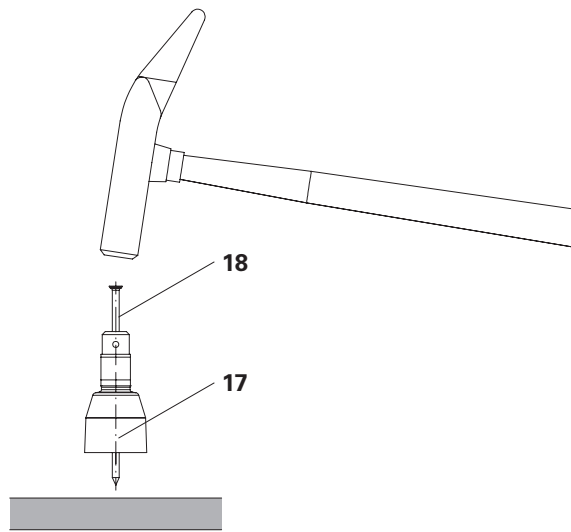

Fig. A5.02
3. Position Threaded Cone M24 40 mm **(17)** on the formlining and hammer in wire pin 4.6x130 mm all the way **(18)**. (Fig. A5.02)